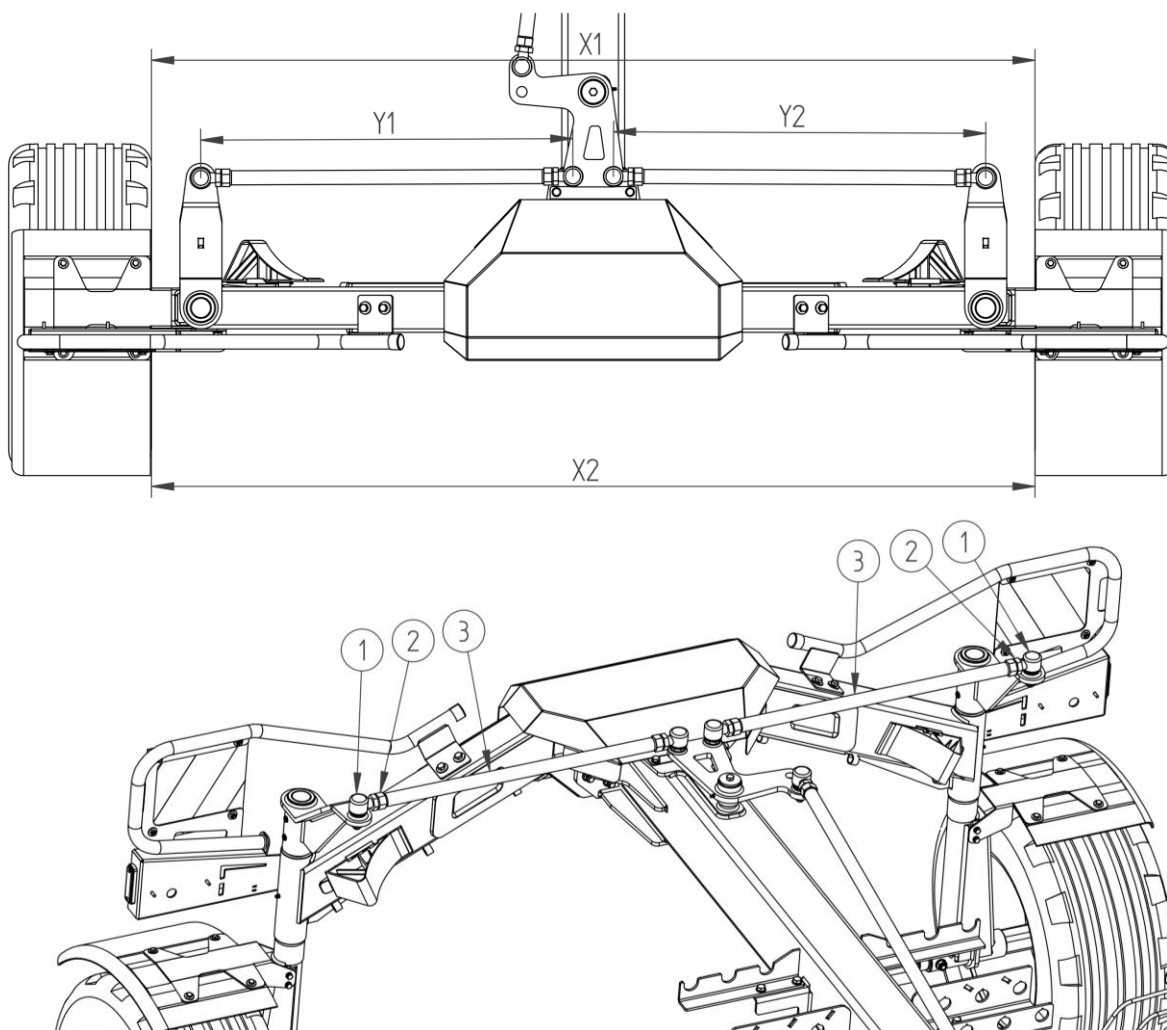

Figure 16. Adjustment of the transport axle wheels
- Loosen the M24 nut (#2 in Figure 16).
- Pull the end of the rod out of its socket (#1 in Figure 16).